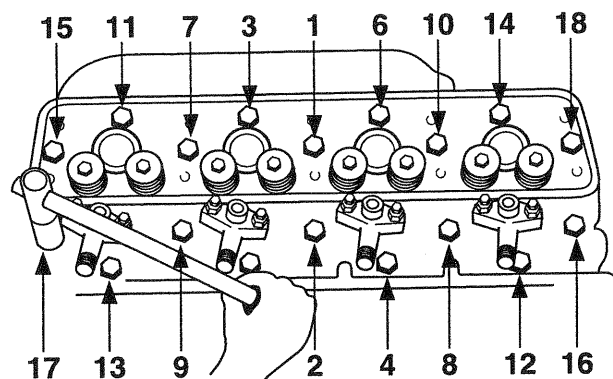

Figure 6: 4-Cylinder Head Torque Sequence
4. Tighten head bolts with a torque wrench in the order shown in Figure 6. Tighten bolts evenly in 2 or 3 passes, ending at the specified torque in final pass.